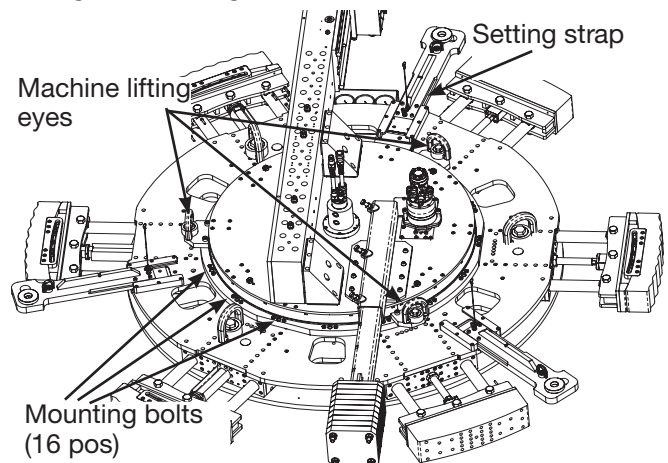

Figure 2: Machine setting features
2. Using suitable lifting equipment, lift the WP3500-H onto the hydraulic base. Ensure the 16 off mounting bolt holes (drawing number WP2500-1) within the WP3500-H align with the 16 off M12 securing holes within the hydraulic clamping base. Refer to figure 2.